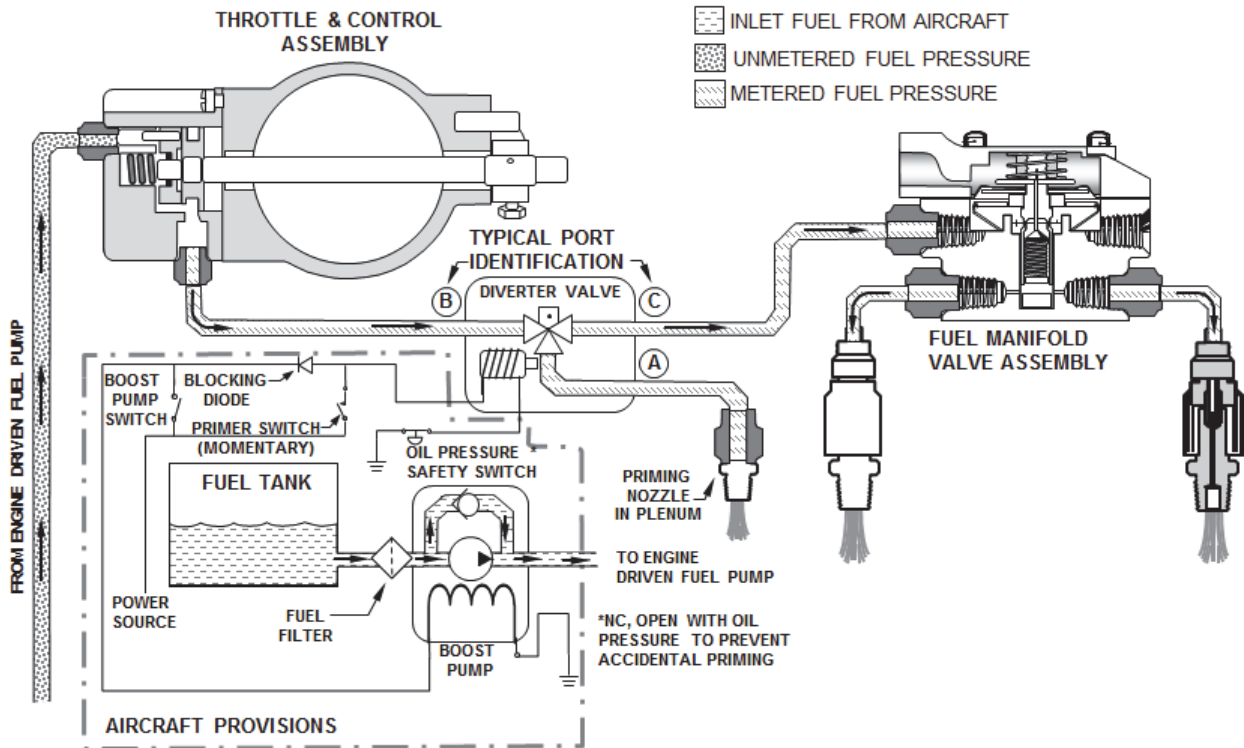
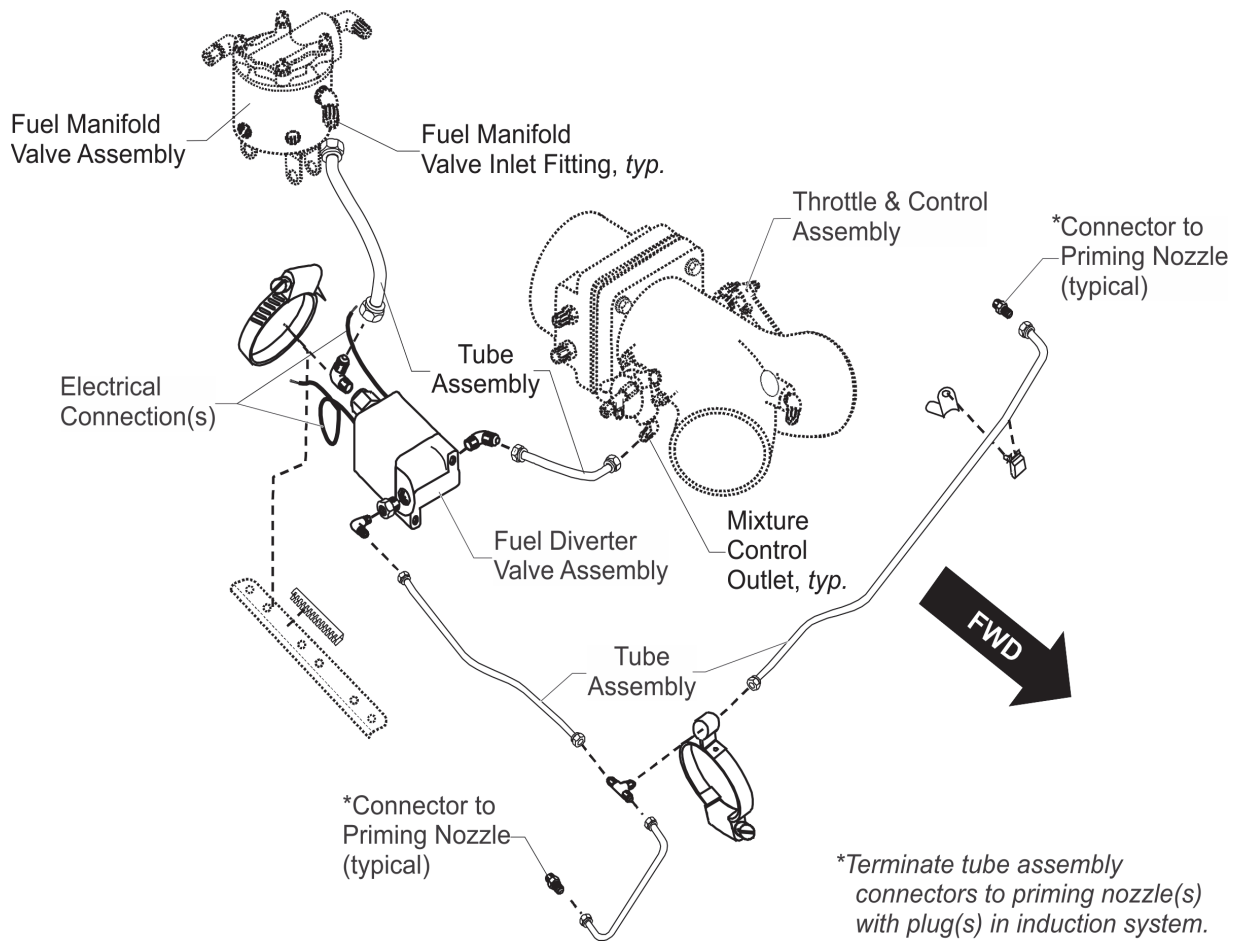
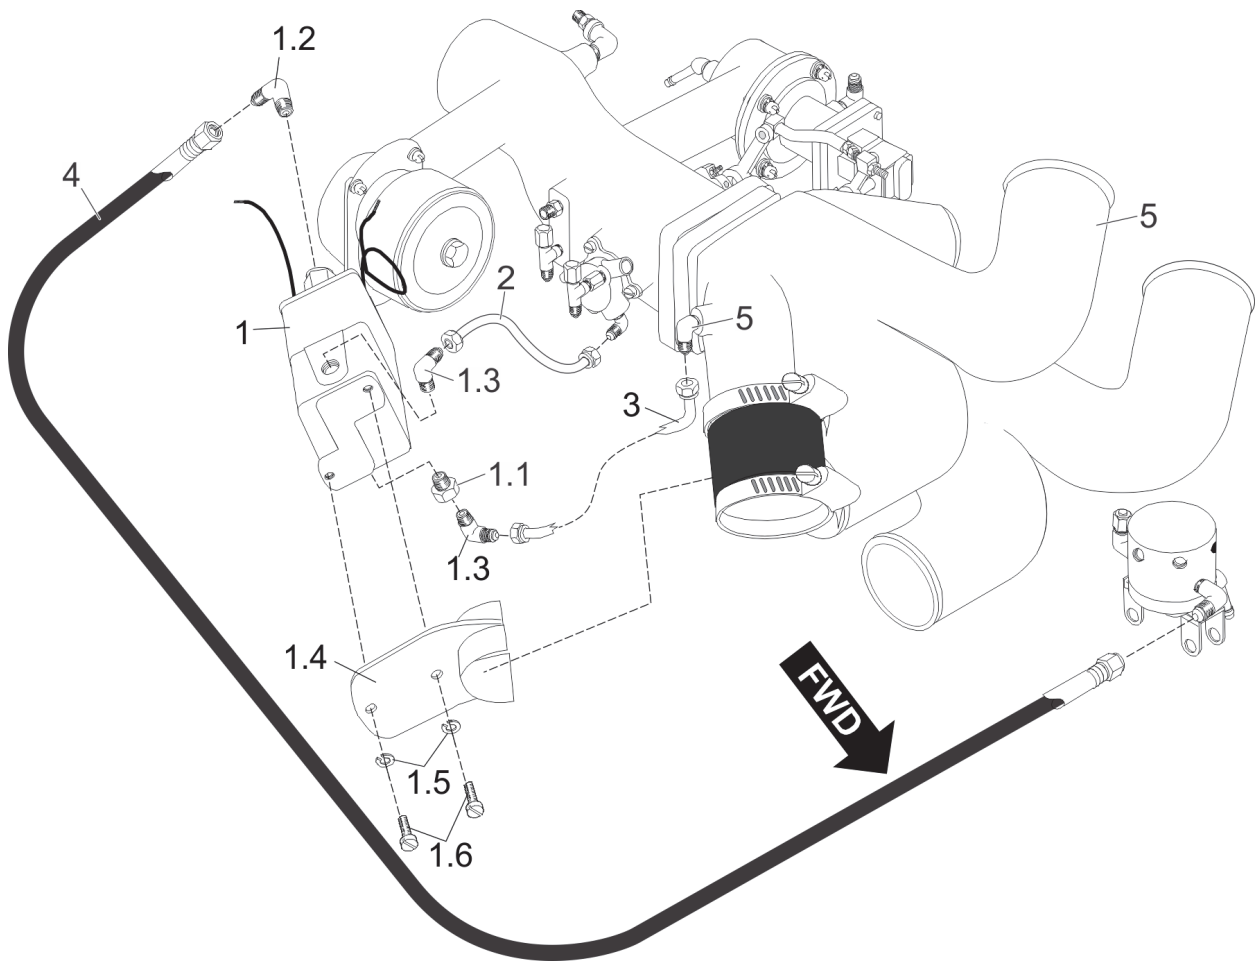
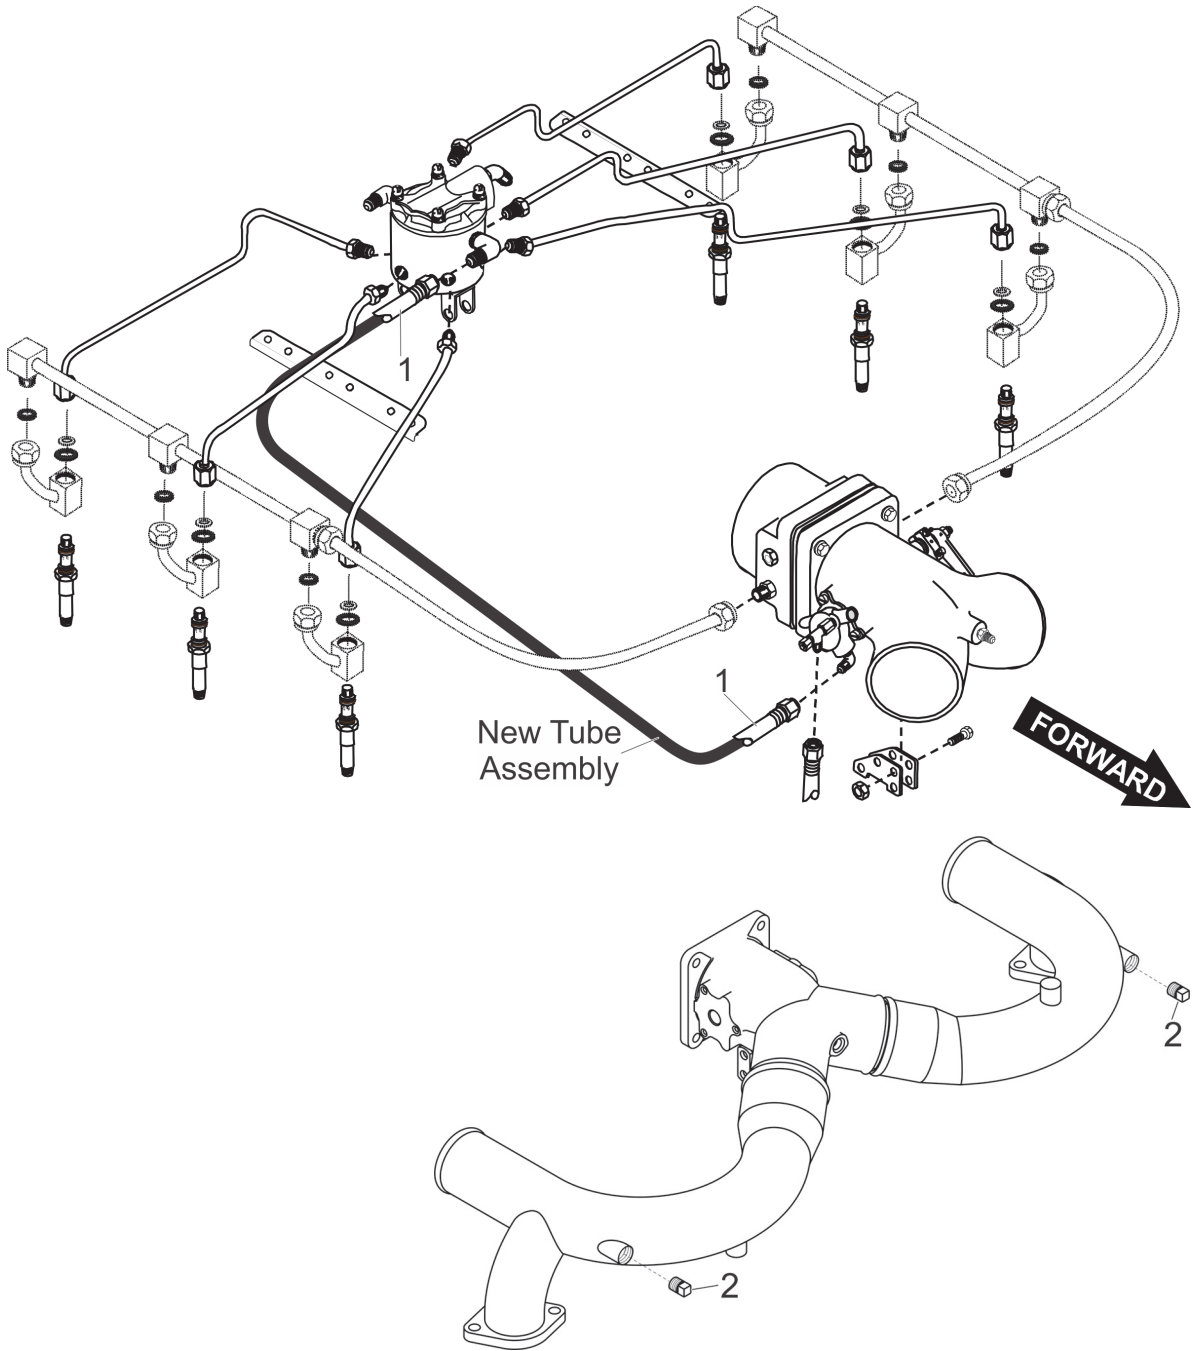

Figure 1. Fuel Diverter Valve Assembly, typical
Figure 2. Fuel Diverter Valve Assembly, TSIO-360-KB
Figure 4. Fuel Diverter Valve Assembly, TSIO-360-MB
Figure 8. Tube Installation, LTSIO-360-E, EB, KB; TSIO-360-E, EB, F, FB, GB, KB, LB
1. Verify your cross-flow engine has a fuel diverter valve assembly (P/N 633862, 642199 (14V), 633862-2, or 649268 (28V as shown in Figure 1).
NOTE: Before removing the fuel diverter valve assembly or fuel manifold valve, either take a photograph or draw a sketch of the fuel injection fitting locations, positions, connections, electrical harness and connections for future reference (examples Figure 2 through Figure 4).
- a. Remove fuel diverter valve assembly (tubes and connectors) between the throttle and control assembly and fuel manifold valve assembly (see Figure 1, port identification B & C and Figure 2 through Figure 4, example configurations).
- b. Remove tube/hose assembly, as applicable, (see Figure 1, port identification A and Figure 2) between fuel diverter valve assembly and priming nozzle(s).
- c. Remove disconnected priming nozzle connector(s) and tube assemblies connected to induction system (location references see Figure 2 and Figure 8).
(reference Figure 8)